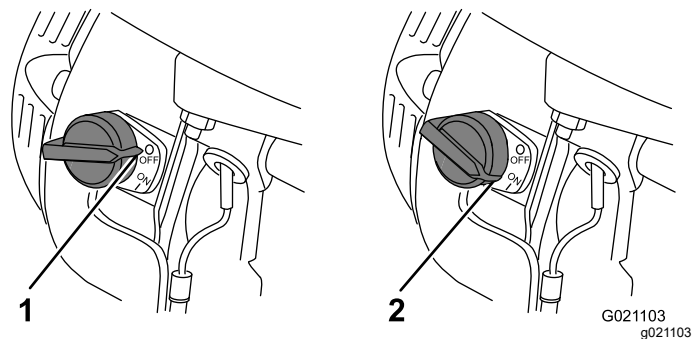

Figure 25
5. Move the engine switch to the ON position (Figure 25).